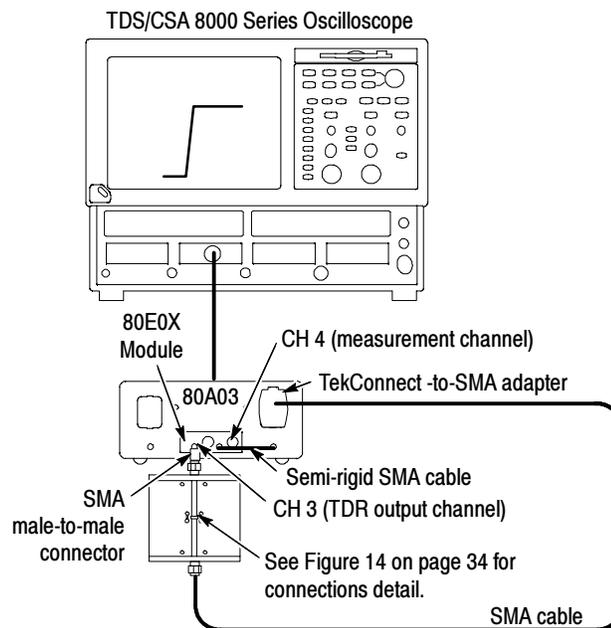

Figure 15: Test system rise time setup
1. Connect the test equipment as shown in Figure 15.
6. Adjust the oscilloscope horizontal and vertical position controls to display a signal similar to that shown in Figure 15.